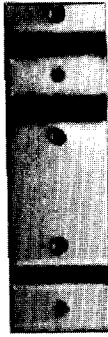

Fig. 22 Track Mounting Bracket
- (a) Mount rear roll-out track mounting bracket (Fig. 22) using .25" x .50" (6.35mm x 12.70mm) self tapping screws in mounting holes at 10.00" (254.00mm) in front of primary mounting surface.